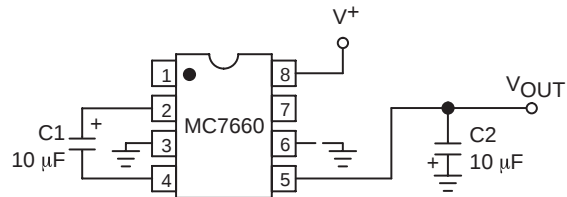
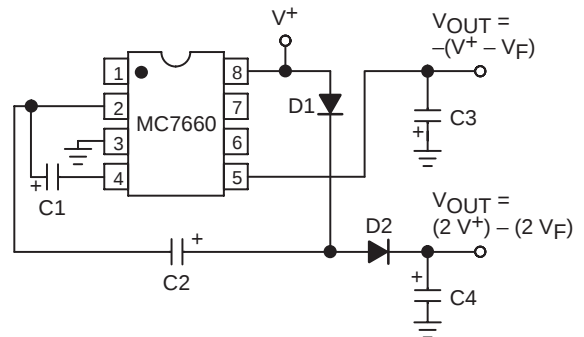
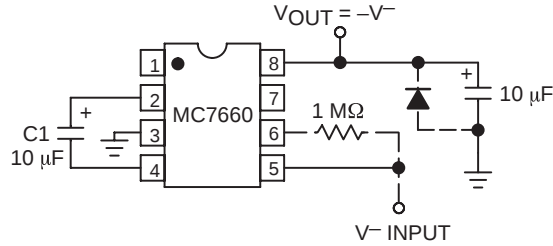
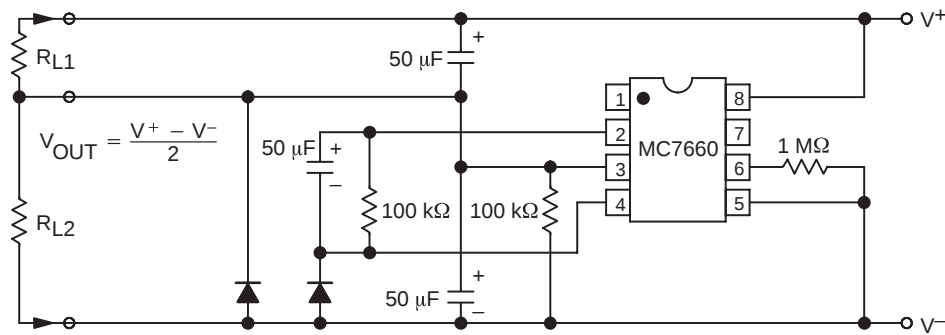

Figure 3. Simple Negative Converter
Figure 9. Combined Negative Converter and Positive Multiplier
Figure 10. Positive Voltage Conversion
Figure 11. Splitting a Supply in Half
Figure 3 shows typical connections to provide a negative supply where a positive supply is available. A similar scheme may be employed for supply voltages anywhere in the operating range of +1.5V to +10V, keeping in mind that pin 6 (LV) is tied to the supply negative (GND) only for supply voltages below 3.5V.
The output characteristics of the circuit in Figure 3 are those of a nearly ideal voltage source in series with 70Ω. Thus, for a load current of -10mA and a supply voltage of +5V, the output voltage would be -4.3V.
Figure 9 combines the functions shown in Figures 3 and 8 to provide negative voltage conversion and positive voltage multiplication simultaneously. This approach would be, for example, suitable for generating +9V and -5V from an existing +5V supply. In this instance, capacitors C_1 and C_3 perform the pump and reservoir functions, respectively, for the generation of the negative voltage, while capacitors C_2 and C_4 are pump and reservoir, respectively, for the multiplied positive voltage. There is a penalty in this configuration which combines both functions, however, in that the source impedances of the generated supplies will be somewhat higher due to the finite impedance of the common charge pump driver at pin 2 of the device.
Since the switches that allow the charge pumping operation are bidirectional, the charge transfer can be performed backwards as easily as forwards. Figure 10 shows a MC7660 transforming -5V to $+5\text{V}$ (or $+5\text{V}$ to $+10\text{V}$, etc.). The only problem here is that the internal clock and
switch-drive section will not operate until some positive voltage has been generated. An initial inefficient pump, as shown in Figure 9, could be used to start this circuit up, after which it will bypass the other (D_1 and D_2 in Figure 9 would never turn on), or else the diode and resistor shown dotted in Figure 10 can be used to "force" the internal regulator on.
The same bidirectional characteristics used in Figure 10 can also be used to split a higher supply in half, as shown in Figure 11. The combined load will be evenly shared between the two sides. Once again, a high value resistor to the LV pin ensures start-up. Because the switches share the load in